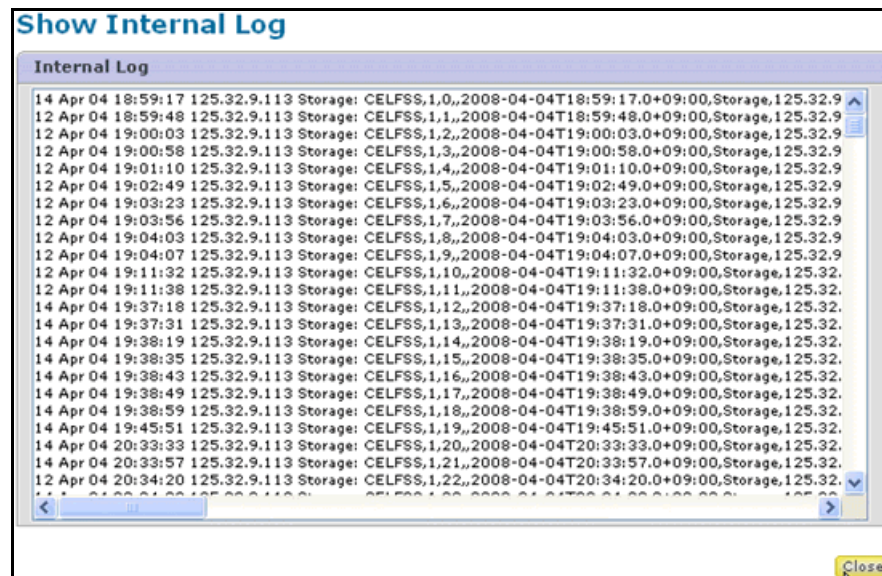

Figure 4-5: Internal Log Window
6. Select the **Yes, I have read the above warning and wish to continue** check box and press **Confirm**. The Internal Log screen opens (see Figure 4-5).